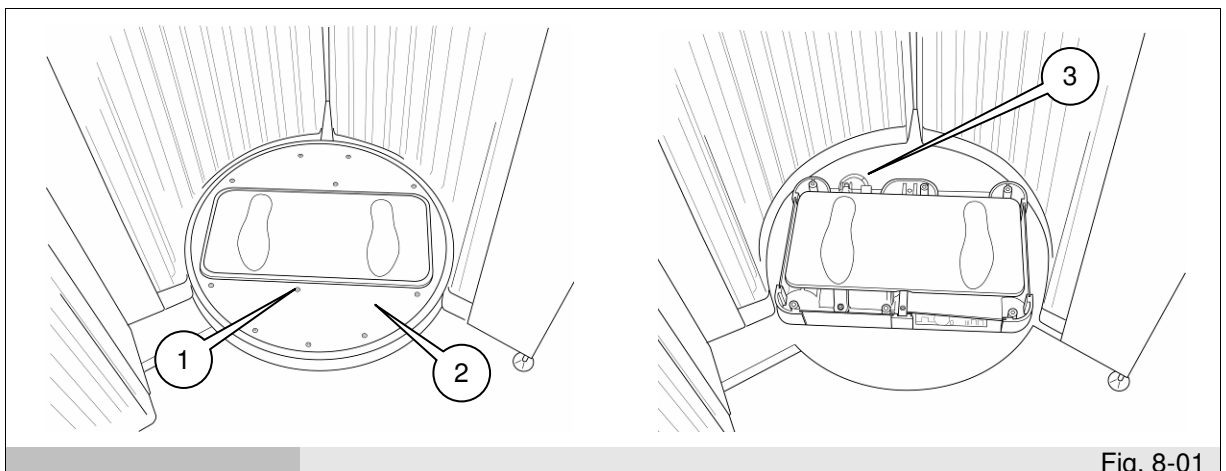
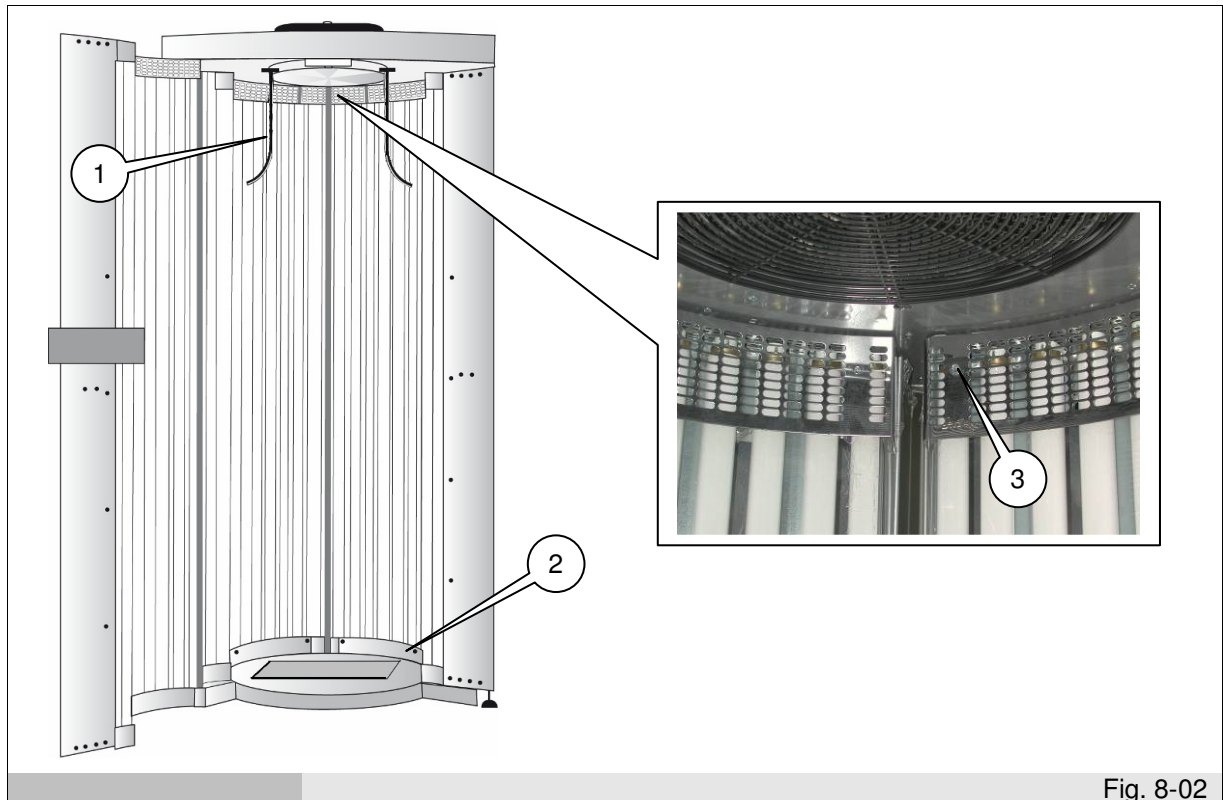

Fig. 8-01
Fig. 8-02
ATTENTION: Remove the Beauty Vibro Plate Plus from the appliance to facilitate removal of the Plexiglas devices: undo the 6 x TSCEI M6x20 screws (ref. 1 in fig. 8-01) connected to the Plexiglas base (ref. 2 fig. 8-01) and disconnect the electrical connections (ref. 3 fig. 8-01) at the back of this.
To facilitate dismantling of the Plexiglas device, remove the 2 handles (ref. 1 fig. 8-02) by undoing all the screws attaching them to the ceiling. Undo all the screws (ref. 2 fig. 8-02) attaching the strap at the top of the protective device to be cleaned, and remove the strap. Next, hold the protective device firmly with both hands and remove it from the shower. Keep the protective device vertical and clean it using a cloth wetted with water or a neutral detergent (NOT CONTAINING ALCOHOL). Re-install the Plexiglas protective device in its original place, making sure the lower part is in front of the brackets (do not scratch the grey screen-printing); you can then reinstall the upper strap and attach the protection device with all the screws (ref. 2 – 3, fig. 8-02). Reinstall the 2 handles (ref. 1 fig. 8-02) on the ceiling with the relative screws.
If the appliance features a vibrating plate (optional), remember to re-position it in the appliance, re-connecting the power cables at its back (ref. 3 fig. 8-01), and re-attaching the reflective base (ref. 2 fig. 8-02) with the 6 x TSCEI M6x20 screws (ref. 1 fig. 8-01).